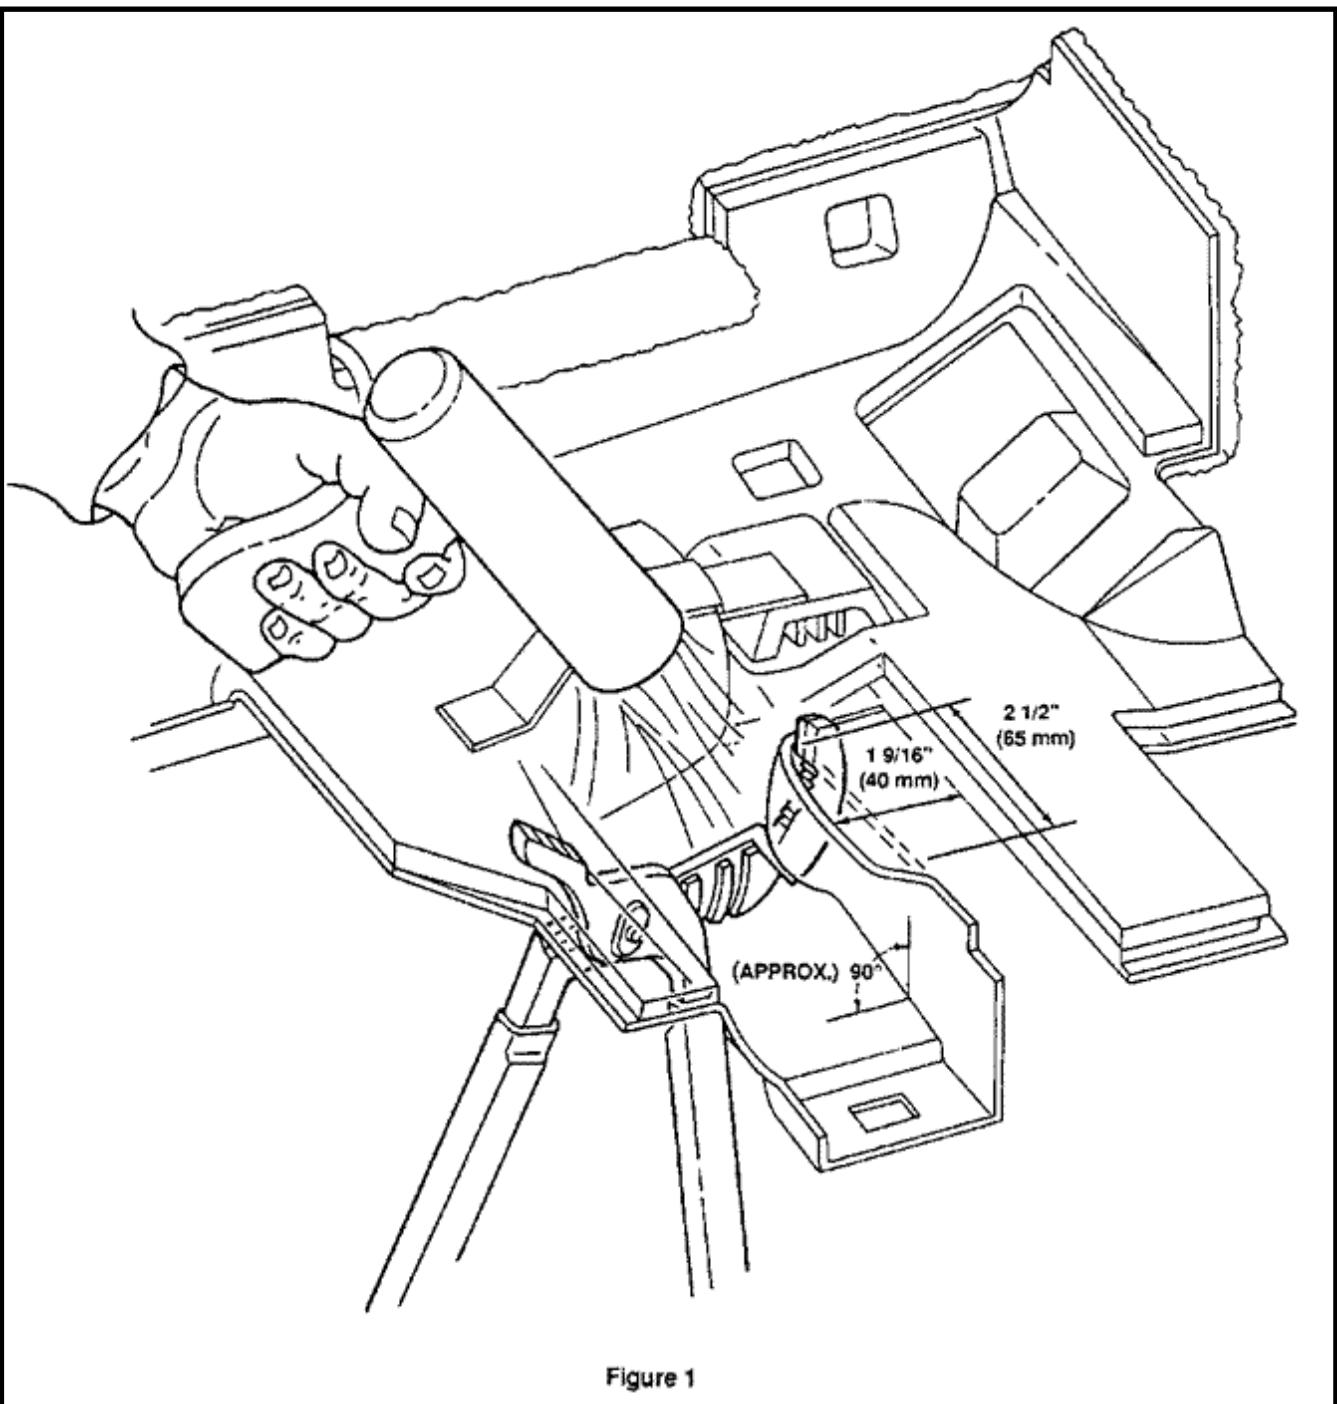

Figure 1
2. Lift away foam sound deadener from area shown in Figure 1 and tape out of way.
3. Using a heat gun, warm trim panel area shown in Figure 1. **USE CARE TO WARM COMPLETE AREA EVENLY.**
4. Using Channel Locks size 16 or larger, place near upper left-hand corner of I/P left-hand lower trim panel as shown in Figure 1. Quickly reform brake pedal opening to configuration and dimensions indicated in Figure 1. If necessary, Channel Locks may be moved downward during initial reforming and/or steps 3 and 4 may be repeated to obtain minimum clearance of 2mm between brake service pedal arm and I/P left-hand lower trim panel.